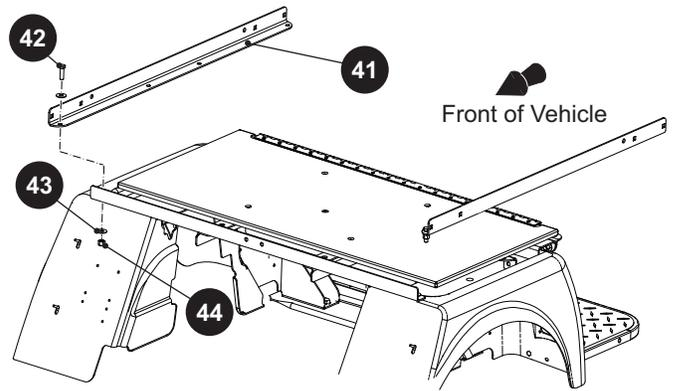

Fig. 5 Seat Frame
9. Remove the bolts (42), flat washers (43), and lock nuts (44) that secure the seat frame (41) to the main frame of the vehicle (Ref. Fig. 5).